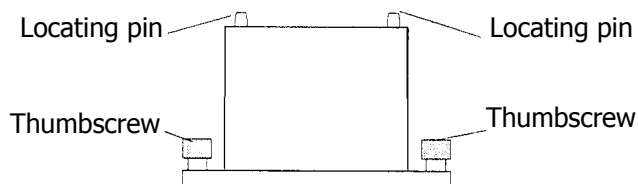

Figure 26 Fitting the plinth to the baseplate in the sample compartment
1. Lower the plinth so that the two locating holes slip onto the two locating pins on the baseplate in the sample compartment, as shown in Figure 26.